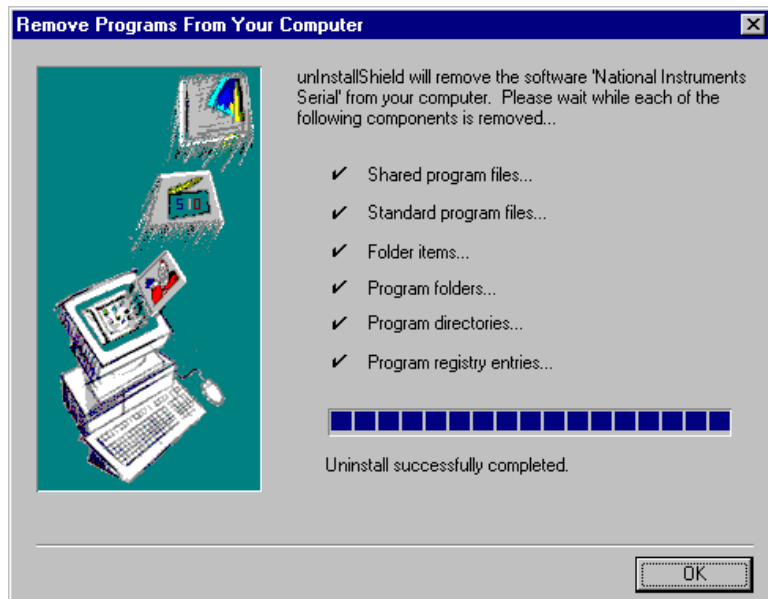

Figure B-3. Successful Uninstallation
3. Select the NI Serial software you want to uninstall, and click on the **Add/Remove** button. The uninstallation program removes all folders, utilities, and registry entries associated with the NI Serial software. Figure B-3 shows the results of a successful uninstallation.